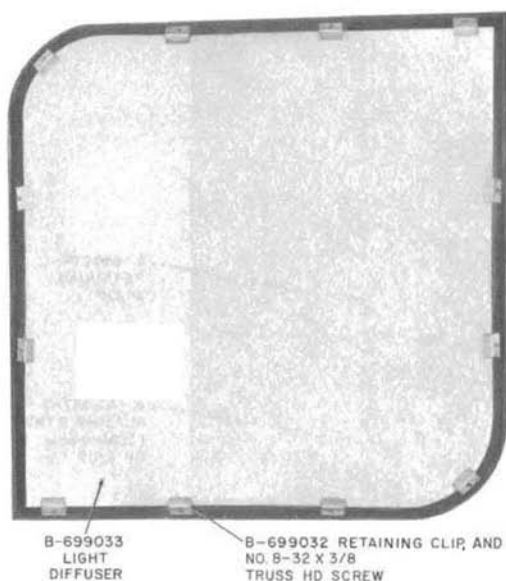

Fig. 10—Telephone Kiosk—Top
2.10 The top dome (roof) is a B-699033 plastic light diffuser which is bonded to the roof assembly with an adhesive sealant and secured with 12 B-699032 retaining clips and 12 No. 8-32 by 3/8 truss head screws (Fig. 10).